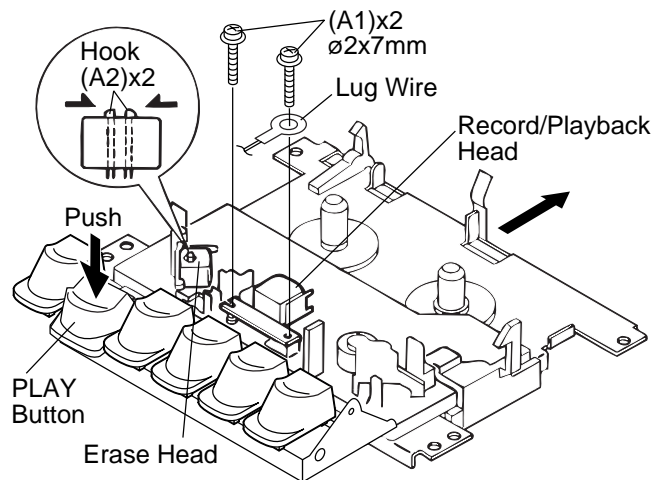

Figure 4-3
How to remove the record / playback and erase heads (See Fig. 4-3.)
2. Remove the hooks (A2) x 2 pcs., toward the center position as shown in Fig. 4-3. and then extract the erase head upward.